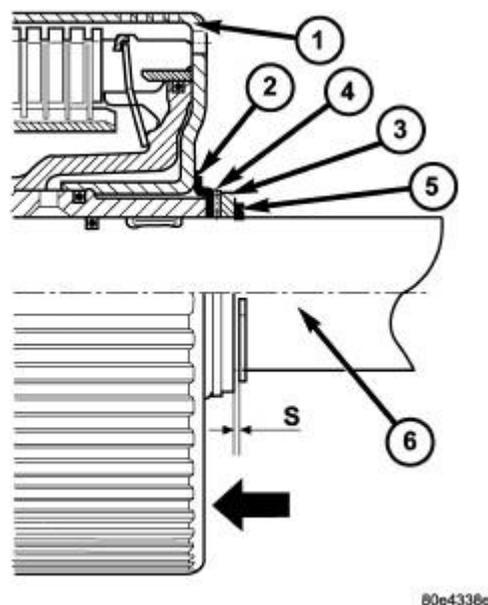

Fig. 168: Check Center & Rear Planetary End-play
8. Inspect axial play between shim (10) and retaining ring (11). Refer to **Fig. 168**. Check axial play "S" between shim (10) and retaining ring (1) using a feeler gauge. Clearance should be 0.15-0.6 mm (0.006-0.024 in.). Shims are available in thicknesses of 3.0 mm (0.118 in.), 3.4 mm (0.134 in.), and 3.7 mm (0.146 in.). Adjust as necessary